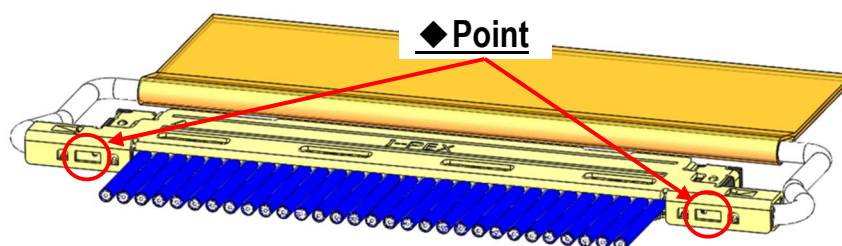

Fig.13 Soldering of Shell-A and Shell-B
- ④ Soldering shell-A and shell-B with the soldering iron at all designated points is recommended. (Fig.13 ◆ point)
※ In case of soldering discrete cable, soldering at Fig.13 ◆ point is necessary.